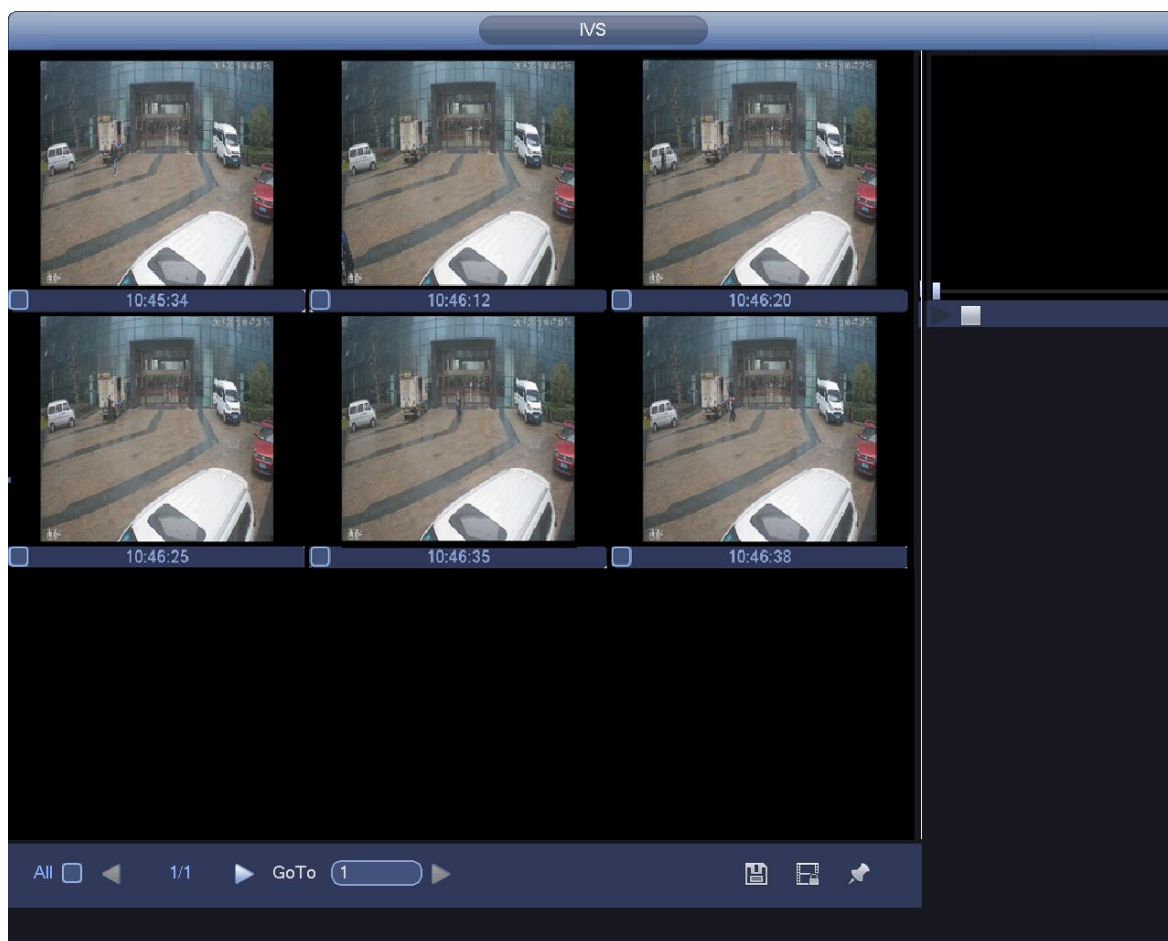

Figure 4-100
- Step 2 Select Channel, Start Time, End Time and Event Type. Click Smart Search. The search results are displayed. See Figure 4-100.